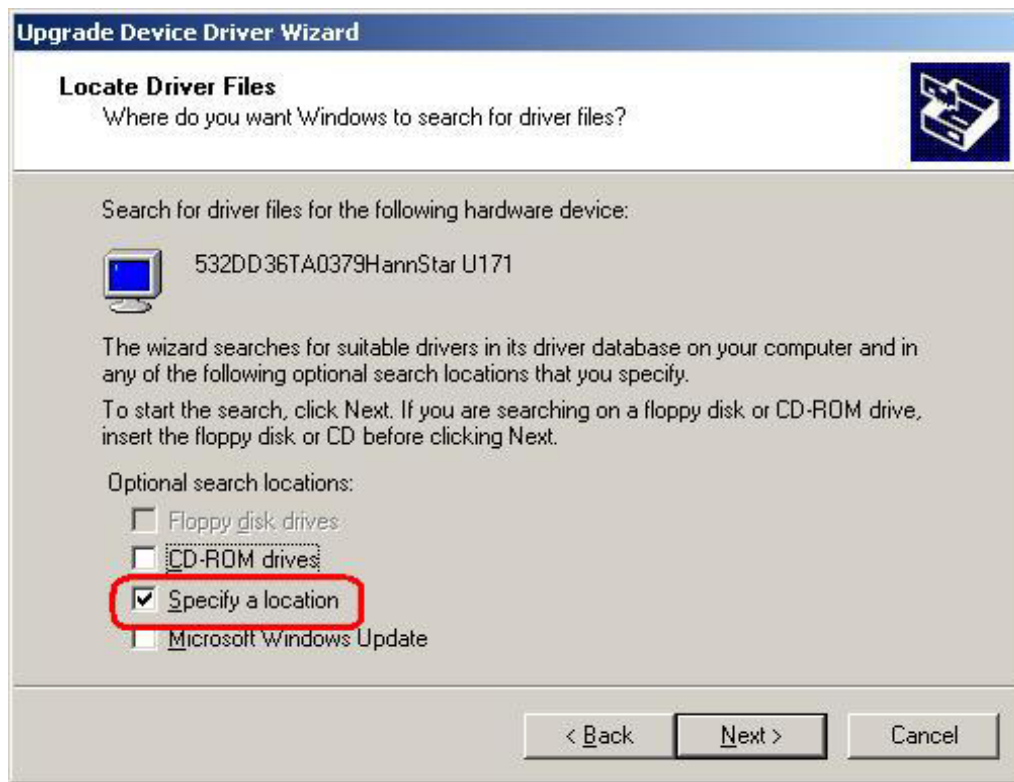

Figure 6-18: Locate Driver Files
- Step 7:** Select **“Specify a Location”** in the **Locate Driver Files** window (**Figure 6-18**).